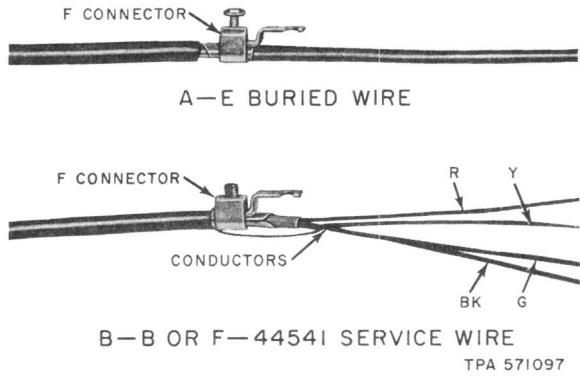

Fig. 13—F Connector on Service Wire
5.04 Remove the inner jacket of the B or F-44541 Service Wire up to the metallic shield. Position the F Connector on the service wire or buried wire as shown in Fig. 13, and tighten firmly with a C, D, or 4-inch E Screwdriver.